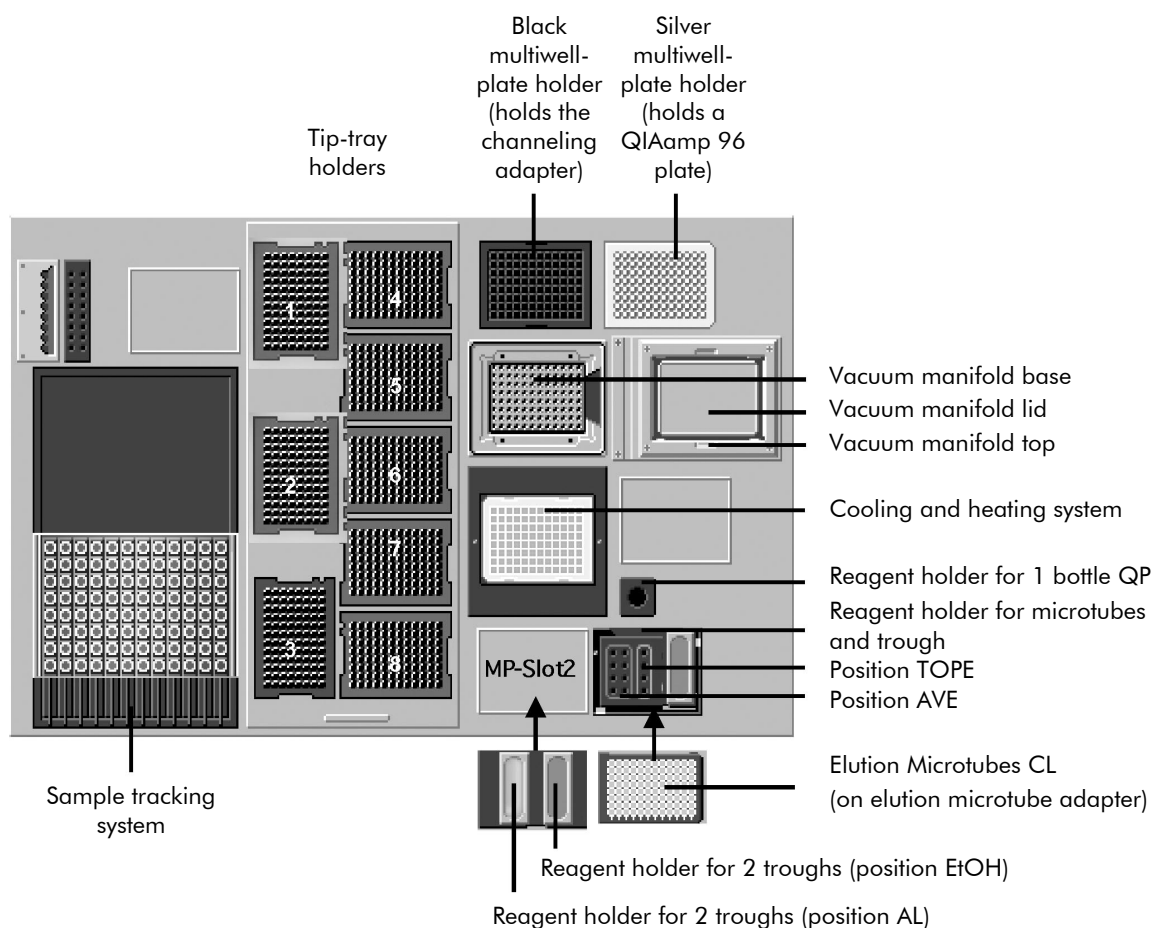

Figure 1. BioRobot MDx worktable. Overview of the BioRobot MDx worktable and its main components. Refer to Tables 4–6 for more details.
The QIAsoft MDx software guides you through worktable setup. For a summary of worktable setup, see Tables 4, 5, and 6 below and Figure 1 on page 27.
* See Figure 1 for the tip positions.